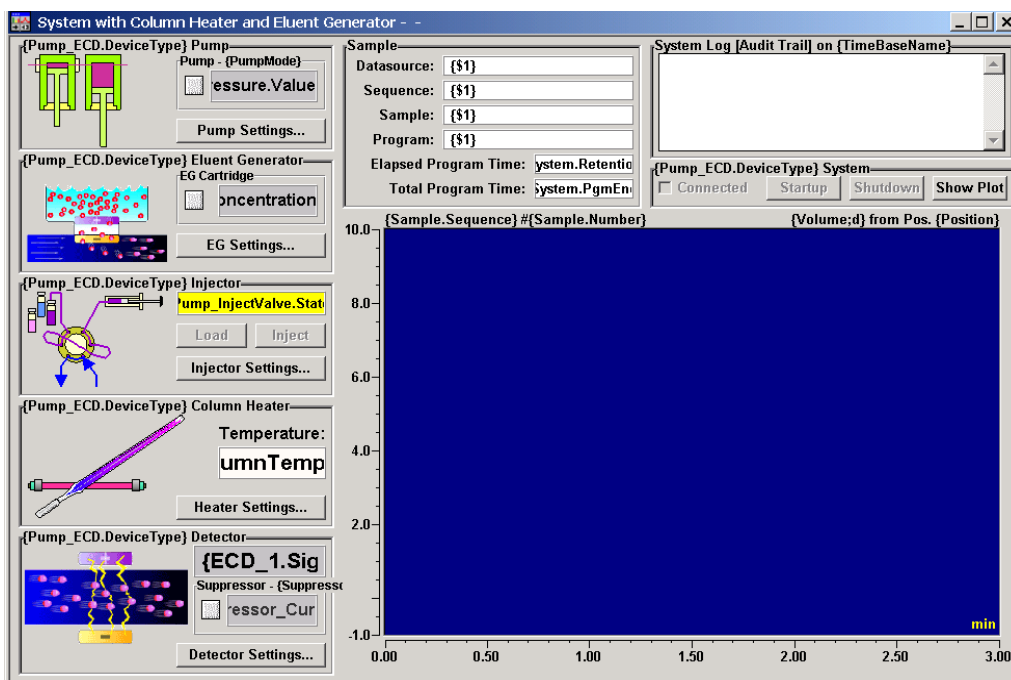

Figure 3-5. ICS-2000 System Control Panel (Unconnected)
5. The Control panel opens, unconnected (see Figure 3-5). To connect to the timebase, open the **Control** menu and click the name of the ICS-2000 timebase in the list at the bottom of the menu.